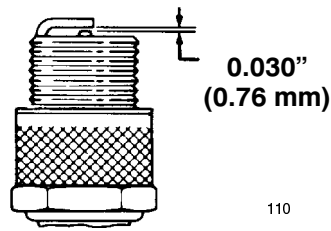

Figure 31
3. Set the air gap between the spark plug electrodes at 0.030 inch (0.76 mm) (Fig. 31).